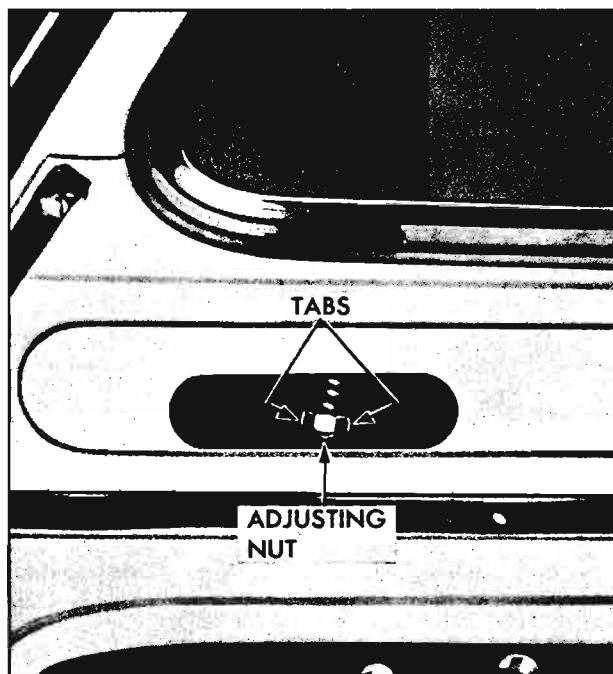

Fig. 10-45a—Door Vent Window Tension Adjustment
2. Through opening in door (fig. 10-45a) bend up tabs of adjustment nut lock (fig. 10-45a), then turn adjustment nut to obtain 5 to 7 lbs. torque while moving vent window from a ten degree open position to a full-open position. Use either a push or pull-type spring scale positioned at rear edge of vent glass.